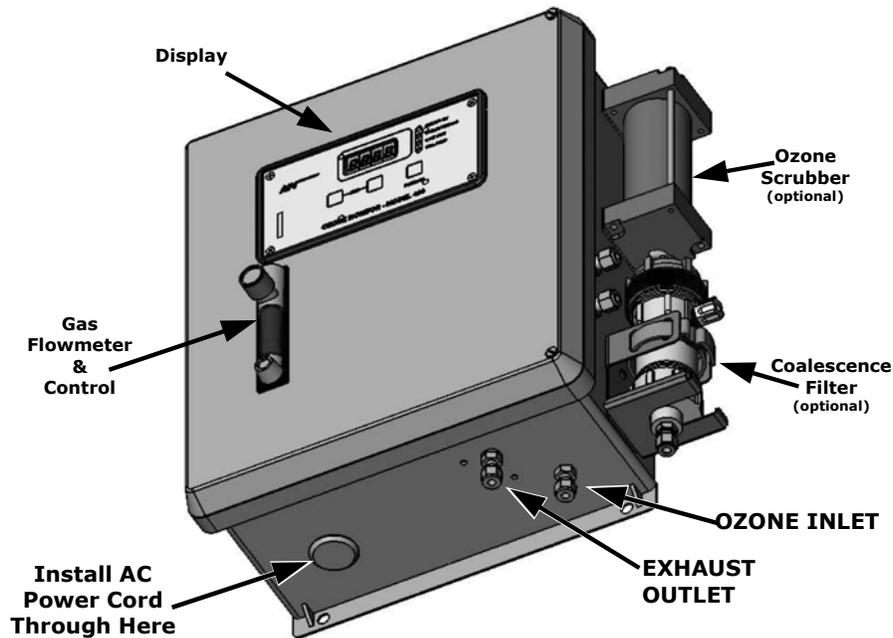

Figure 3-5 460L Pneumatic Connections
2. Connect the ozone delivery line to the ¼" inlet fitting labeled "Ozone Inlet" on the bottom face of the enclosure (See Figure 3-5.)
3. Install a 1/2" conduit fitting for routing the electrical wiring into the monitor through the hole provided (see Figure 3-5). In order to maintain the IP (NEMA4X) rating of the enclosure, an appropriate sealed conduit connector should be used.